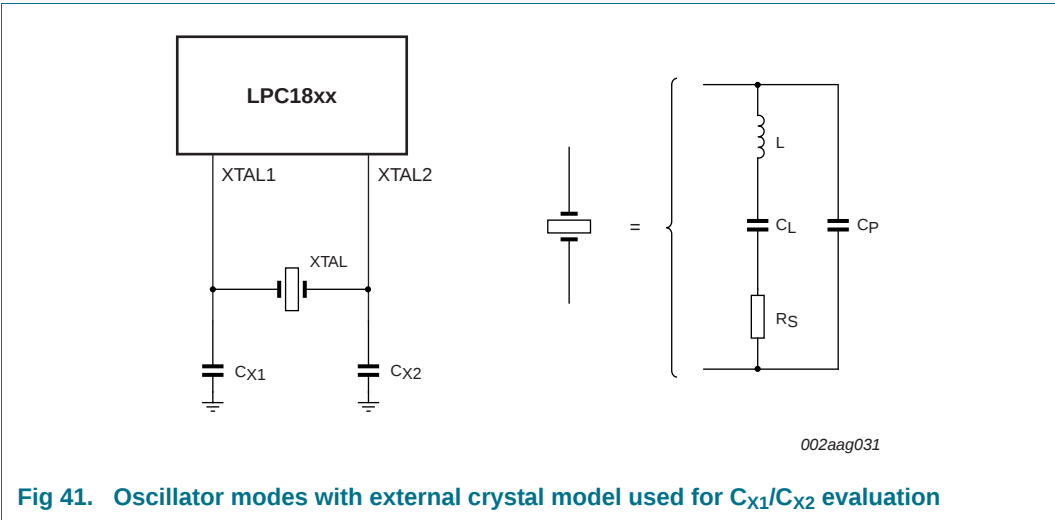

Fig 41. Oscillator modes with external crystal model used for C_{X1}/C_{X2} evaluation
- External components and models used in oscillation mode are shown in Figure 41, and in Table 36 and Table 37. Since the feedback resistance is integrated on chip, only a crystal and the capacitances C_{x1} and C_{x2} need to be connected externally in case of fundamental mode oscillation (L , C_L and R_s represent the fundamental frequency). Capacitance C_P in Figure 41 represents the parallel package capacitance and must not be larger than 7 pF. Parameters F_c , C_L , R_s and C_P are supplied by the crystal manufacturer.